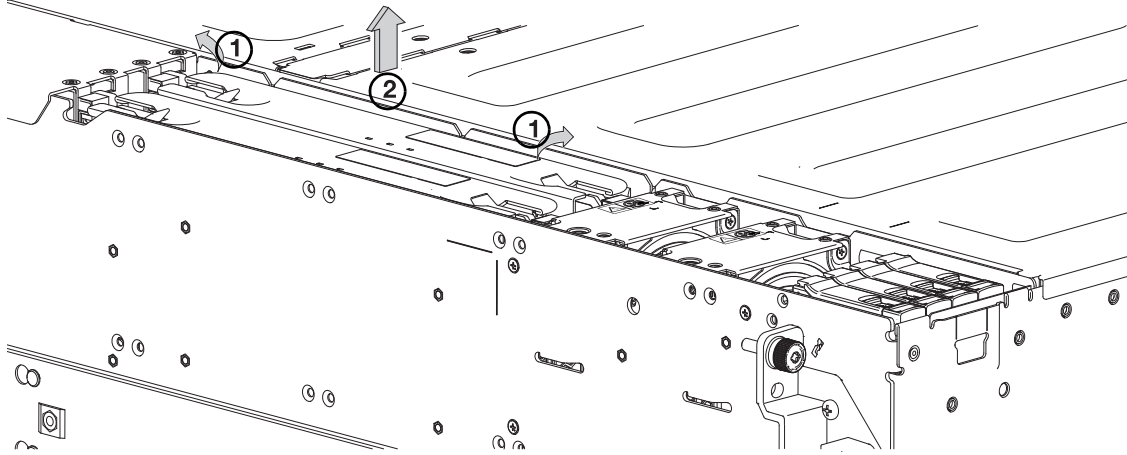
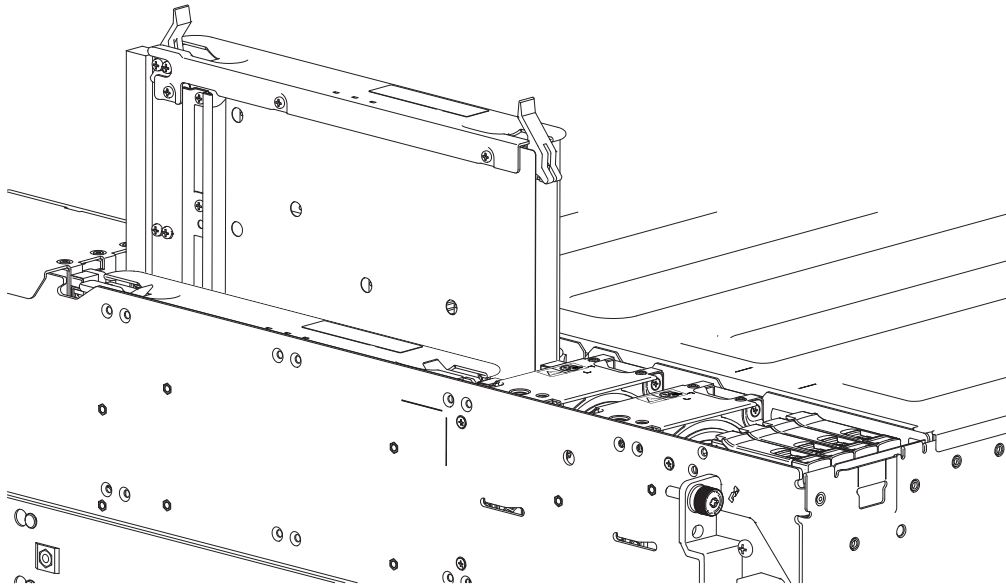

Figure 80 Removing a Storage personality module (1 of 2)
Figure 81 Removing a Storage personality module (2 of 2)
TIP: The illustrations in this topic show Storage personality module replacement as you face the enclosure front and view the top left panel. Refer Figure 80 \(page 100\) and Figure 81 \(page 100\). The Storage personality module must be replaced within 35 seconds from its removal.
6. Grasp the swing-arms present on both sides of the faulty Storage personality module between your index fingers and thumbs. See step 1 in Figure 80.
7. Open the swing-arms and pull the Storage personality module up, out from the slot. See Figure 81.
See Figure 80 and Figure 81 when performing this procedure, but ignore the directional arrow—since you will insert the module into the slot—rather than removing it.